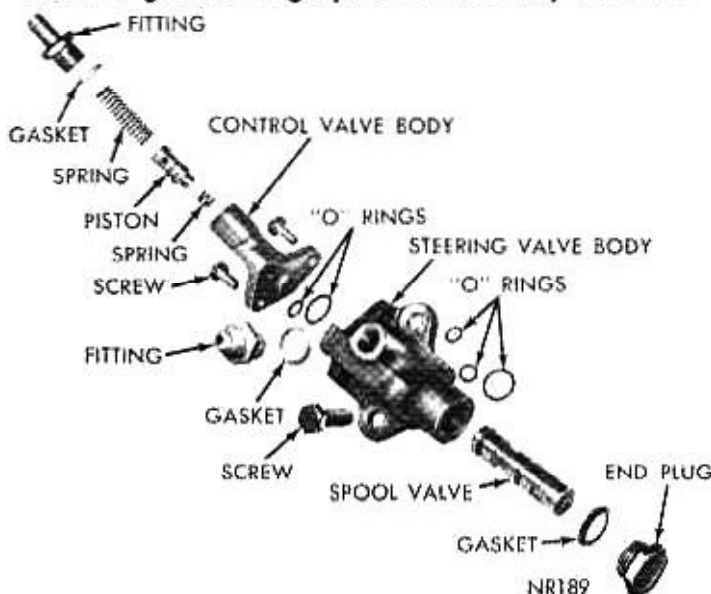

Fig. 3—Valve Body (Disassembled View)
(4) Remove the two screws attaching control valve body to steering valve body and separate two bodies (Fig. 3).
(5) Remove outlet fitting, washer, spring, valve piston and cushion spring.
(6) Carefully shake out spool valve and inspect for nicks, burrs and scores. Do not remove valve body end plug unless inspection indicates a leak at gasket. **If spool valve or valve body is damaged, replace valve and body assembly.**
(7) Clean valve bodies and valve piston thoroughly in clean solvent. Blow out all passages with compressed air. Lubricate pistons and bores with power steering fluid.
(8) Install steering spool valve in valve body so valve lever hole is aligned with lever opening in valve body. Valve must be perfectly free in valve body without sticking or binding (Fig. 3).
(9) Install a new gasket on end plug (if removed). Tighten plug to 25 foot-pounds.
(10) Install piston cushion spring in control valve body being sure it seats in counterbore at bottom of housing. Lubricate piston and insert nose end of piston into body bore. Test for smooth operation. Be sure cushion spring is not cocked.
(11) Install spring on top of piston, and install copper washer and fittings. Tighten to 20 foot-pounds.
(12) Position two new "O" rings on control valve body and attach to steering valve body. Tighten the two attaching screws to 95 inch-pounds.
(13) If pressure inlet fitting has been removed, tighten fitting to 30 foot-pounds.
(14) Align lever hole in valve spool with lever opening in valve body.
(15) Install on gear housing making sure the valve lever enters hole in valve spool and key section on